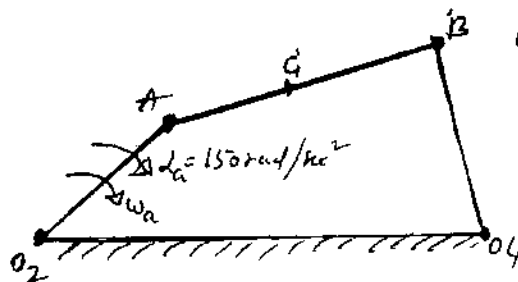

Fig.Q3
- 3 Fig.Q3 shows a four bar mechanism. Crank O_2A rotates at 200 rpm and an angular acceleration of 150 rad/sec^2 at the instant when the crank makes an angle of 45° to the horizontal. Find the acceleration of points B and C and angular velocities and angular acceleration of links 3 and 4.